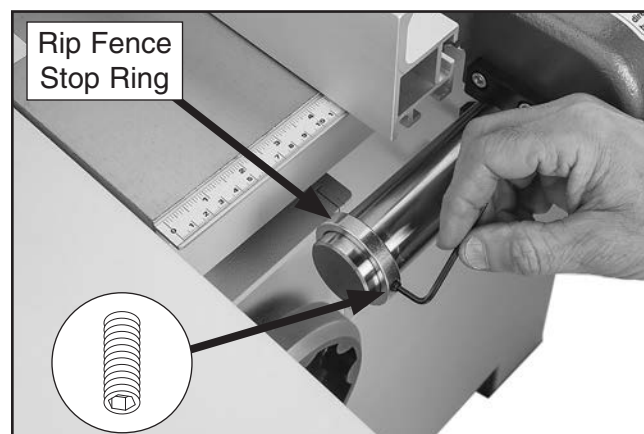

Figure 39. Rip fence stop ring attached to rail.
33. Slide rip fence stop ring onto left end of rail and tighten pre-installed set screw to secure it in place (see **Figure 39**). When installed correctly, this ring will prevent rip fence from contacting blade.